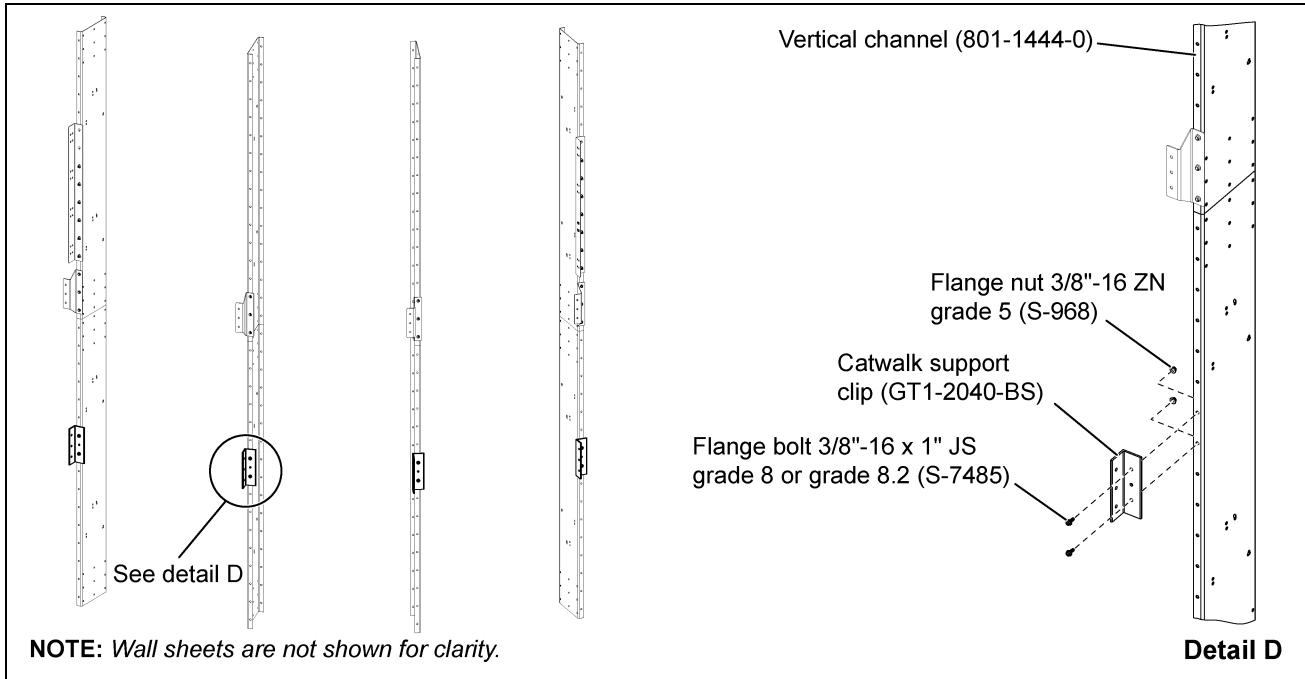
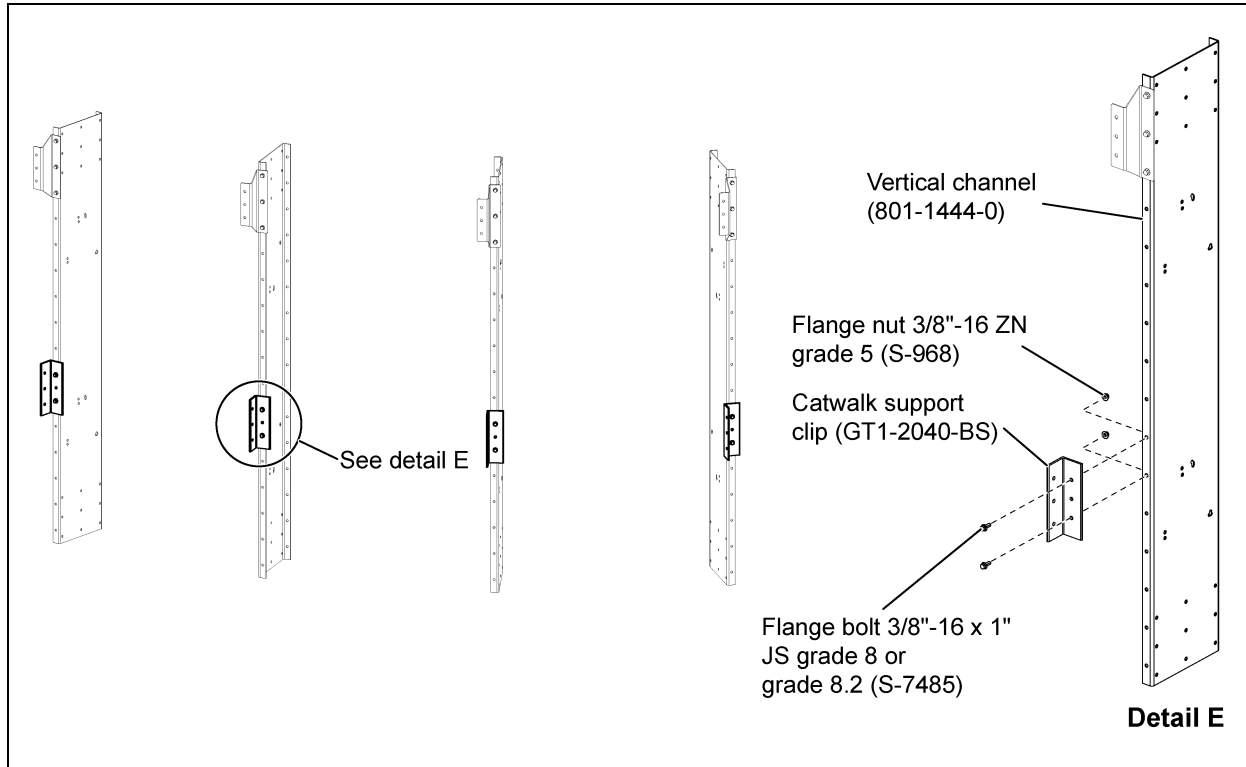

Figure 6G Offset Catwalk Support Clip Installation
Figure 6I Roof Hatch Catwalk Support Clip Installation
1. Install catwalk support clips (GT1-2040-BS) to vertical channels (801-1444-0). Support clip can be installed on each vertical channel as the wall sheets are installed using 3/8"-16 x 1" JS grade 8 or grade 8.2 bolts (S-7485) and 3/8"-16 ZN grade 5 nuts (S-968). (See Figure 6G below and Figure 6I on Page 52.)